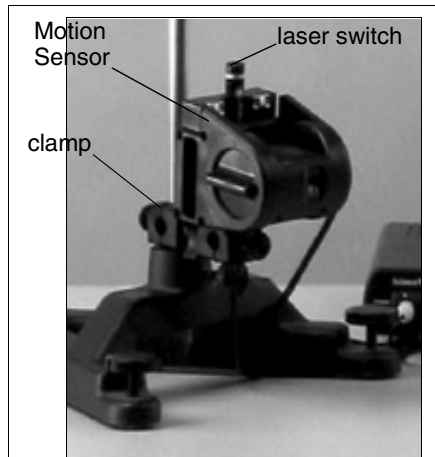

Figure 6: Mounting the Motion Sensor with Laser
7. Mount an Adjustable Angle Clamp to the lower end of the base rod. Insert the Laser Switch through the hole in the rod clamp such that the Laser Switch remains in a vertical position and the opening faces up (See Figure 6). Slide the Motion Sensor over the Laser Switch. Turn the Adjustable Angle Clamp until the laser switch holds vertically in place. Do not allow the Laser Switch room to move, slip, or fall out of place.